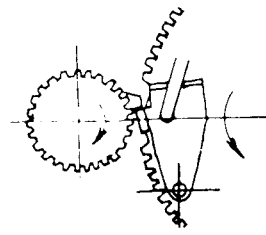

Fig. 3
4. When playing ends and the pick-up cartridge enters the lead-out groove which is spaced out, the engagement advances more than it is returned by the projection. Because of this, the engagement is pressed by the projection as shown in Fig. 3, causing the main gear to turn and engage with the turntable spindle gear. Thus the change cycle is started.